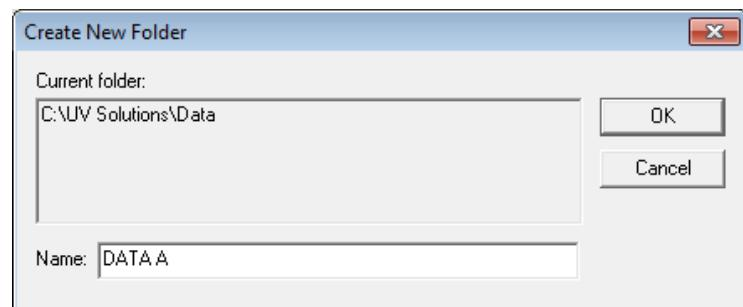

Fig. 4-36 Create New Folder Dialog
- 2) Click the **Create Folder** button to display the "Create New Folder" dialog box as shown in Fig. 4-36. Enter a folder name for "Name" and click the **OK** button.